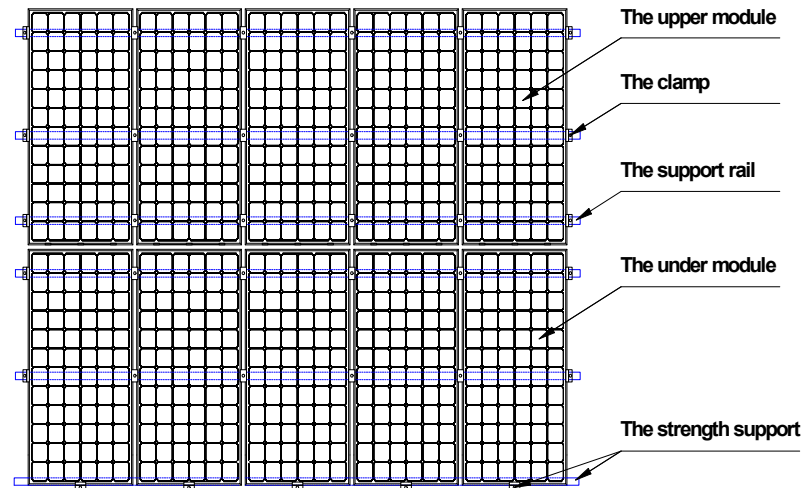

FIG 1 Schematic diagram of reinforcement mounting of module
6.2.1.3 For the roof system installed in the area with relatively heavy snowfall or snow cover in the meteorological records, the installer shall reinforce the supporting system at the lower frame of the module, in order to prevent the lower frame from being pressed and damaged by the falling snow or freezing of the melt ed snow. TW solar suggests selecting the support reinforcing mechanism shown in Figure1.